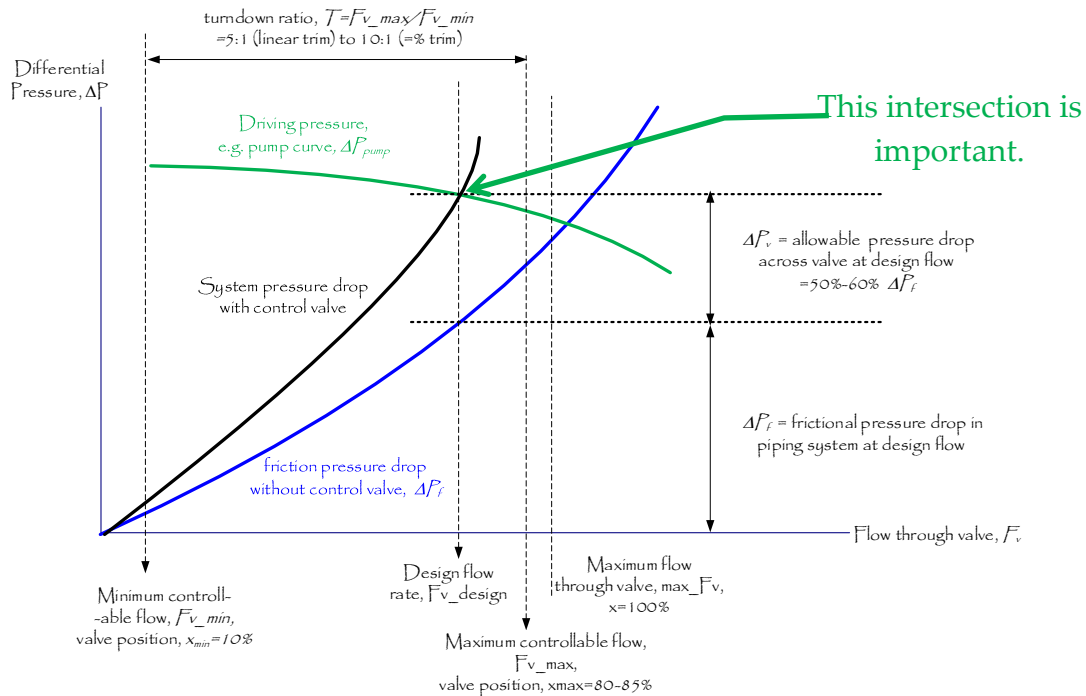

Figure 8. Schematic of system and pump curves
- 7) Using the HYSYS-generated value of C_v , compute the system curve *with* the control valve using the same procedure as you employed in step 3). Co-plot this system curve with the previous system curve and the pump curve. Confirm that the system curve with the control valve intersects the pump curve at the design flow rate. You should finally obtain a plot similar to Figure 8.